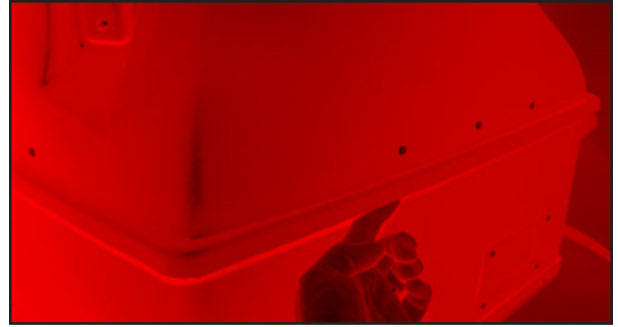

Figure 6.
6. Rotate the upper housing until it lines up with the lower housing. Make sure the edges of the two housings mate all the way around the GHOST (Figure 6) and then pull the black attachment handles down over their attachment posts (Figure 7).